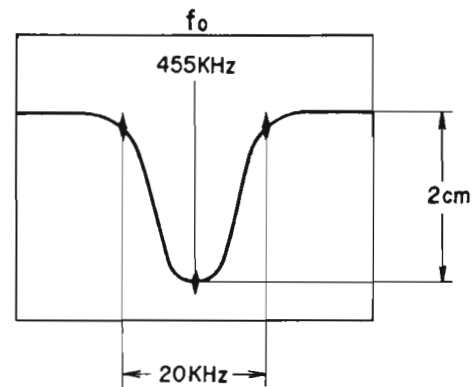

Fig. 29
- 2) Connect Genescope output to Terminal (5) and Genescope input to TP-1 (FM-AM IF Board)
- 4) Adjust cores of IFT L₂, L₃, and L₄ of AM IF Amp. P.C. Board to obtain maximum waveform level (Fig. 29) and a 455 kHz center frequency. (Center frequency differs according to country. Adjust according to country's center frequency.) When center frequency is set to 455 kHz, in case sufficient Q is not attained, deviate from frequency and set to position for best Q.